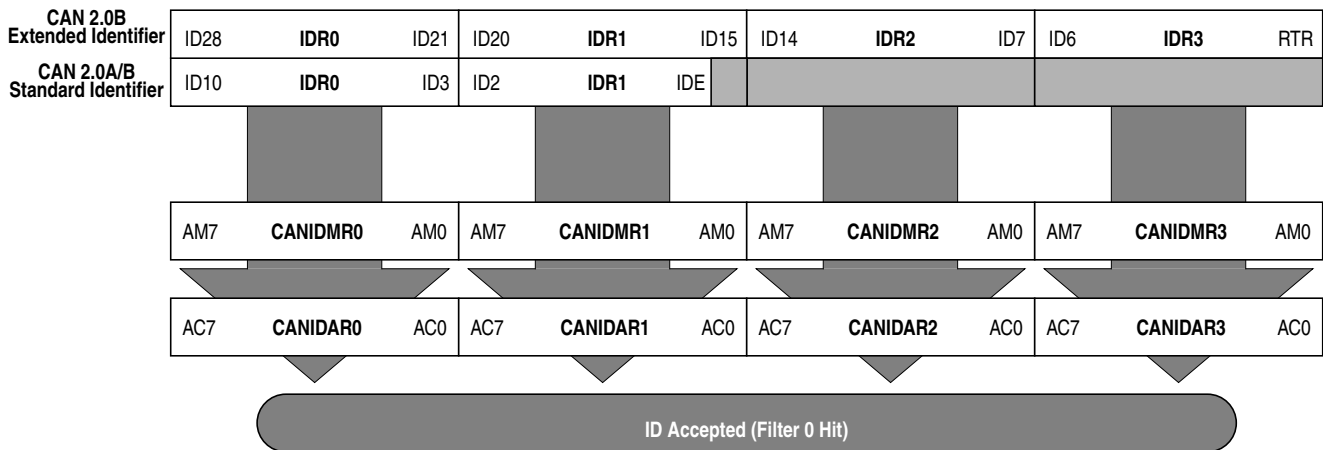

Figure 10-39. 32-bit Maskable Identifier Acceptance Filter
- The 11 bits of the standard identifier plus the RTR and IDE bits of the CAN 2.0A/B messages1. This mode implements two filters for a full length CAN 2.0B compliant extended identifier. Figure 10-39 shows how the first 32-bit filter bank (CANIDAR0–CANIDAR3, CANIDMR0–CANIDMR3) produces a filter 0 hit. Similarly, the second filter bank (CANIDAR4–CANIDAR7, CANIDMR4–CANIDMR7) produces a filter 1 hit.